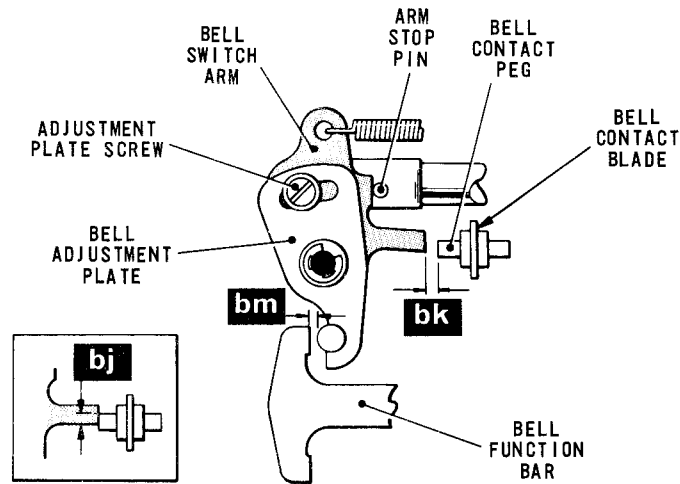
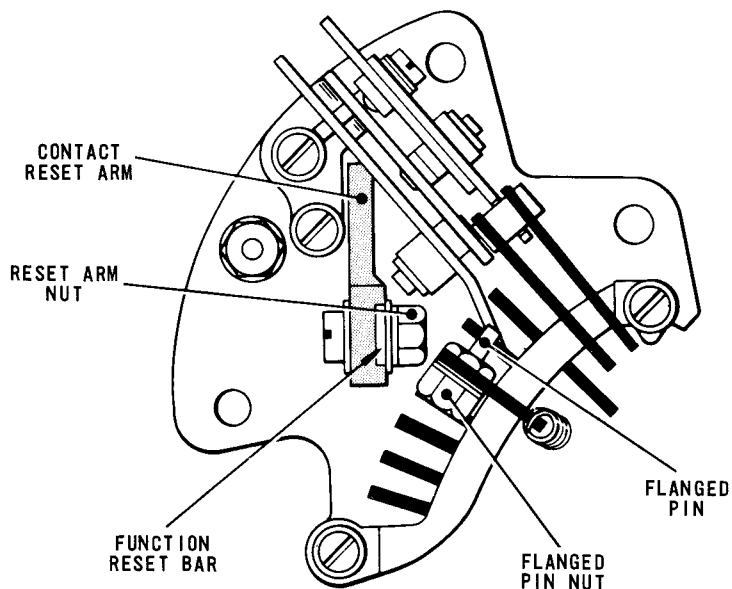
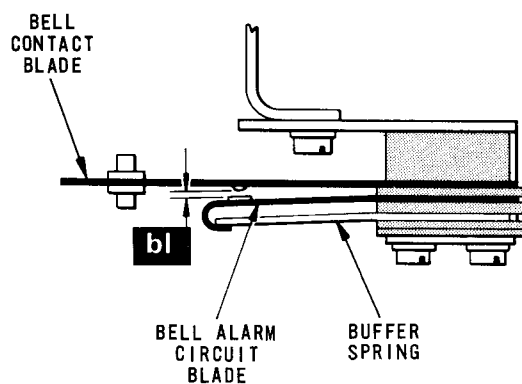

Fig. 4.72 BELL CONTACT OPERATING MECHANISM
Fig. 4.73 BELL AND WRU? FUNCTION BARS
Fig. 4.74 BELL CONTACT SPRING ASSEMBLY
- 90.1 Check that the Bell contact peg, Fig.4.72, is engaged with the projection on Bell switch arm by .015 - .030 in. (dimension) 'bj' - inset).
90.7 Move the shift lever, Fig.4.53, to the Letters position, i.e. to the left looking from the rear of the machine. Lift the translator clutch abutment and turn the machine by hand until the function reset bar, Fig.4.73, has moved towards the rear of the machine.
90.8 With the Bell switch arm, Fig.4.72, resting against its stop pin, check that there is now a clearance of .004 - .008 in. (dimension 'bk') between the projection on the switch arm and the Bell contact peg.
90.10 To adjust, slacken the nut securing the contact reset arm, Fig.4.73, and move the arm until the correct clearance is present on both switches.
90.11 Return the machine to the rest position and, with the Bell contact peg, Fig.4.72, engaged with the projection on the Bell switch arm, check that the Bell alarm circuit blade, Fig.4.74, is now resting against its buffer spring and that there is a clearance of .015 - .025 in. (dimension 'bl') between the alarm circuit blade and the Bell contact blade. Check also that a force of 1 - $1\frac{1}{2}$ ounces (28 - 43 grammes) applied to the tip of the alarm circuit blade causes its hook to be moved clear of the buffer spring.
by hand until the function reset bar, Fig.4.73, has moved towards the rear of the machine. Check that the rear end of the Bell function bar, Fig.4.72, is abutting against the shift lever, Fig.4.53, and the front end of the bar is clear of the Bell adjustment plate Fig.4.72, by .004 - .008 in. (dimension 'bm').
- 90.16 Return the machine to the rest position. Depress the WRU? key or, if the machine has no keyboard, set up the WRU? code (MSSMS) on the pins. Lift the translator clutch abutment and turn the machine by hand until the function reset bar, Fig.4.73, has moved towards the rear of the machine. Check that the rear end of the WRU? function bar is abutting against the shift lever, Fig.4.53, and the flanged pin on the front end of the bar is clear of the WRU? switch arm by .004 - .008 in. (dimension 'bm', Fig.4.72).
- 90.17 To adjust, slacken the nut securing the flanged pin, Fig.4.73, and move the pin until the correct dimension is achieved. Tighten the nut.
- 90.18 Move the shift change lever, Fig.4.53, to the Figures position. Depress the Bell key or, if the machine has no keyboard, set up the Bell code (MMSMS) on the pins. Lift the translator clutch abutment, turn the machine slowly by hand and check that, as the function reset bar, Fig.4.73, is returned towards the front of the machine, the projection on the Bell switch arm, Fig.4.72, is lowered on to the top of the Bell contact blade peg and the contacts are permitted to close.
- 90.19 With the contacts thus closed, lift the projection on the switch arm clear of the contact blade peg and check that the hook of the Bell alarm circuit blade Fig.4.74, is now clear of its buffer spring by a minimum of .003 in.